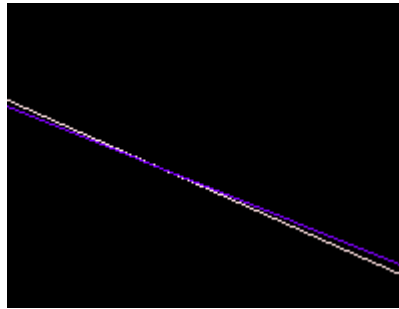

Figure 4-14 MicroStation View
- P. This tool allows you to edit the features in your surface. Below Figure 4-14 shows two features crossing themselves, first use the target button within the Edit Feature point box to identify the features